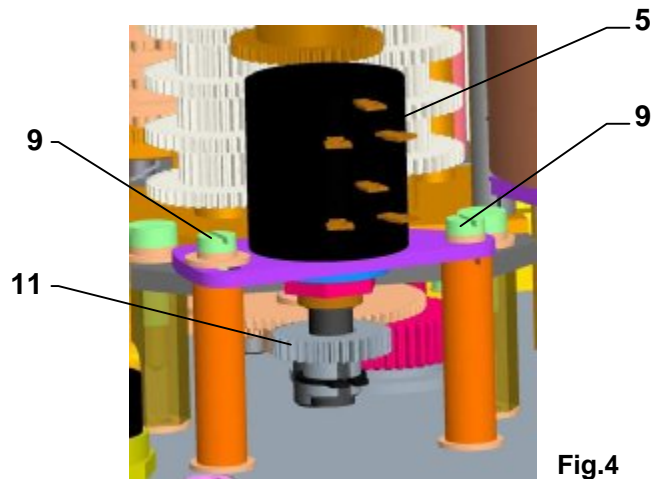

Fig.4
- Turn the position indicator disc (32) to bring a mark identified with a symbol for the „close“ direction in coincidence with a mark on the upper cover aperture (If it is difficult to turn the wheel, release the screw using the screwdriver to fix the wheel).
- Turn the upper part of the position indicator disc (32) to bring a mark identified with a symbol for the „open“ direction in coincidence with the mark on the upper cover aperture.
4.5 Adjustment of resistant transmitter (Fig.4)